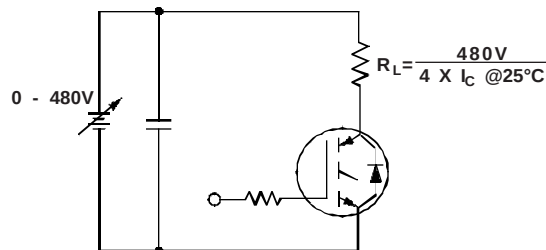

Fig. 20 - Pulsed Collector Current Test Circuit
① Repetitive rating; $V_{GE}=20V$, pulse width limited by max. junction temperature. (See fig. 20)